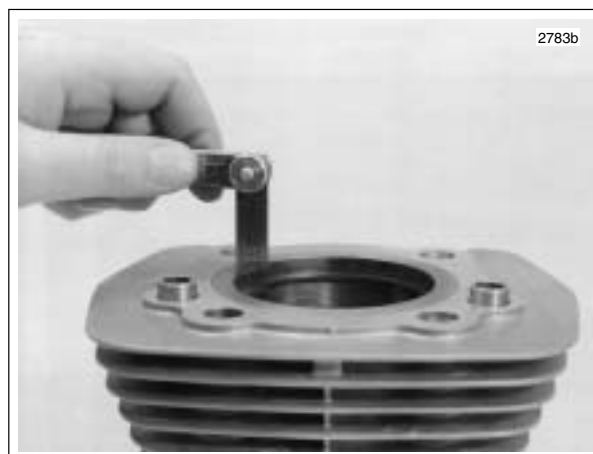

Figure 3-92. Measuring Ring End Gap
1. See Figure 3-92. Insert the **new** ring into the cylinder, square it in the bore using the top of the piston and measure the ring end gap with a feeler gauge. Do not use the ring if the end gap does not fall within the following specifications, See Table 3-23.